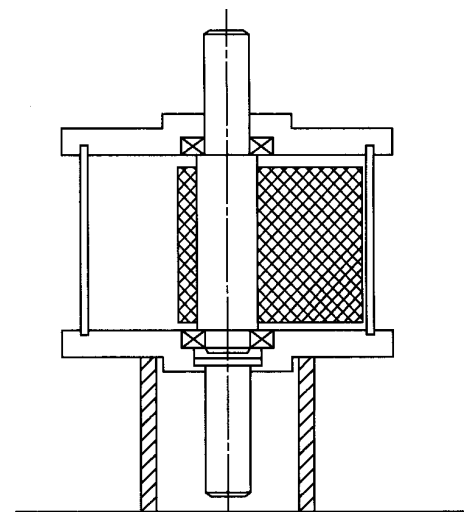

FIGURE 8
2. Set drum up in support as shown in Figure 8. Drive end to be down. Remove nuts from studs in the lower flange only.